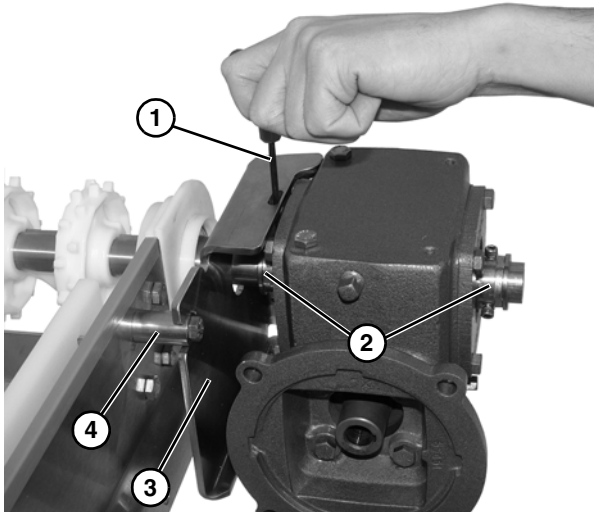

Figure 13
4. Use a hex key wrench (**Figure 13, item 1**) to remove set screws on both bearings (**Figure 13, item 2**). Slide gear reducer and mounting bracket (**Figure 13, item 3**) from spacer (**Figure 13, item 4**) on conveyor.